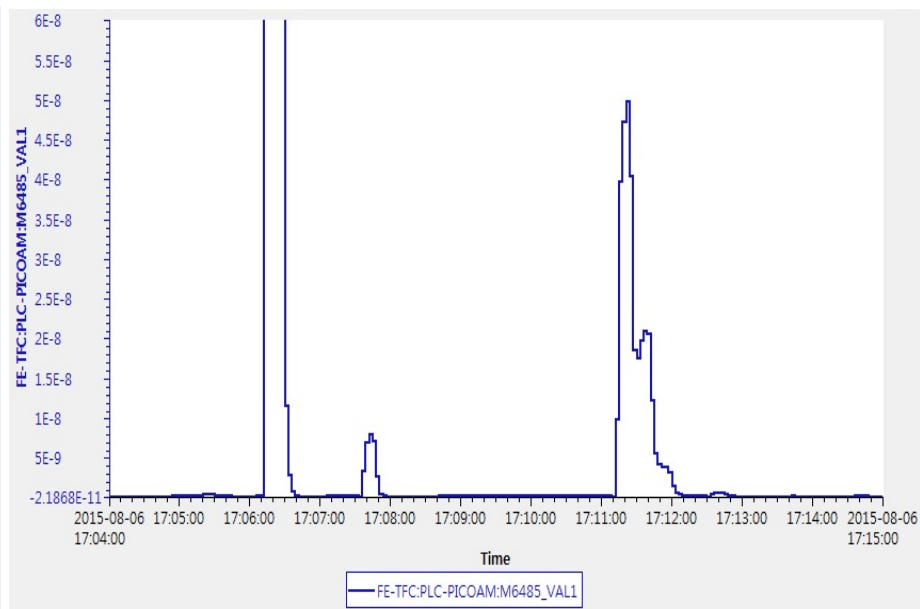

Fig. 15. Faraday-Cup current change
- Figure 15 Results, the mass analysis is possible by the specification of the magnet.